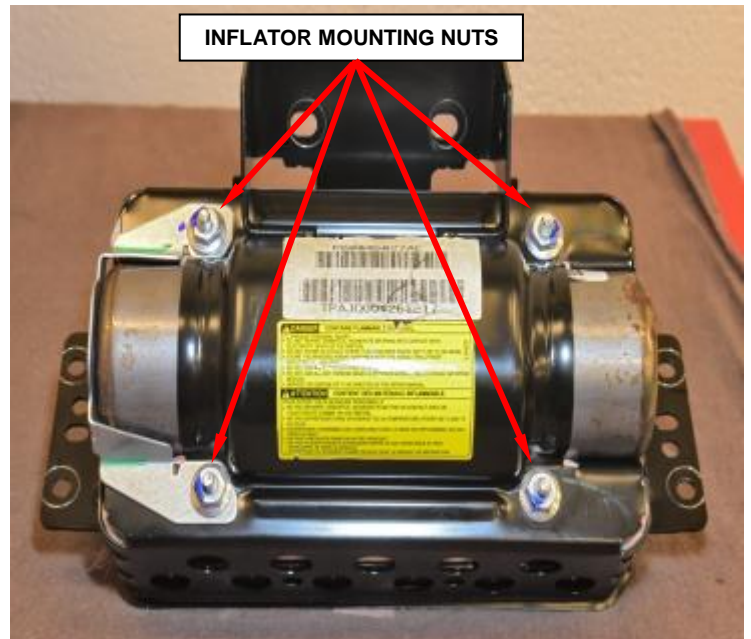

Figure 24 – Mounting Nuts
- b. Remove and **discard** the four inflator mounting nuts (Figure 24).